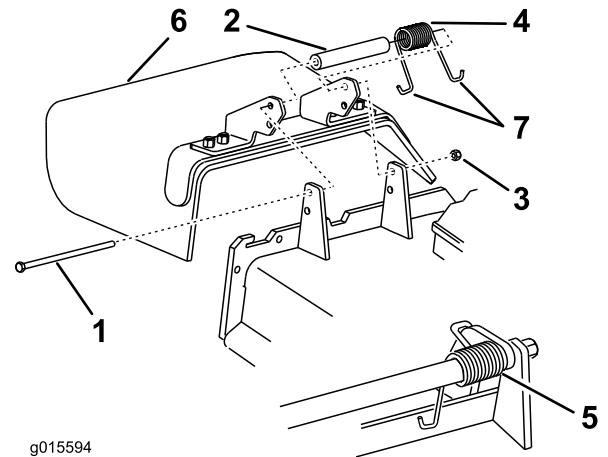

Figure 73
1. Remove the locknut, bolt, spring, and spacer holding the deflector to the pivot brackets (Figure 73). Remove the damaged or worn grass deflector.
Note: Make sure that one **J** end of the spring is installed behind the deck edge before installing the bolt as shown in Figure 73.
3. Install the bolt and nut. Place one **J** hook end of the spring around the grass deflector (Figure 73).